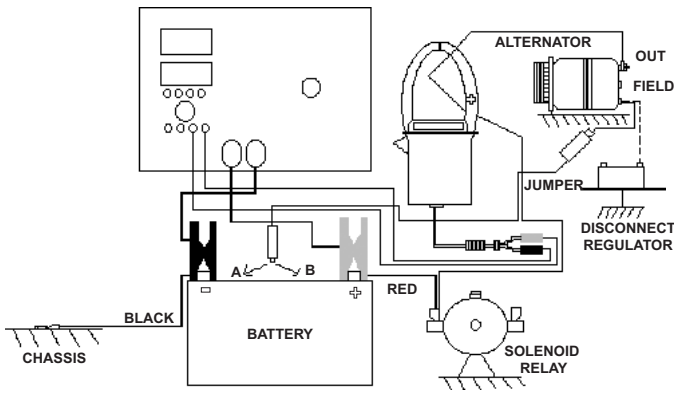

Figure 10
1. Make connections according to figure 10 above.
1. Make connections according to figure 10 (above).